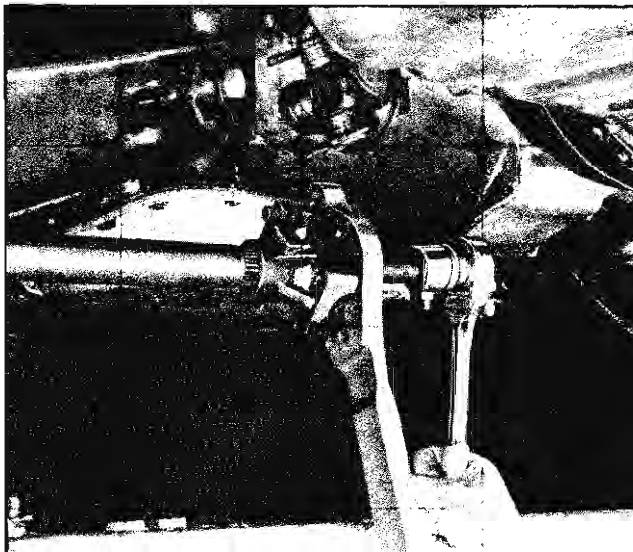

Fig. 4-8 Removing Flange from Axle Shaft
7. Remove flange from axle shaft using J-8614 (Fig. 4-8).
7. Remove flange from axle shaft using tool J-8614 (Fig. 4-8).